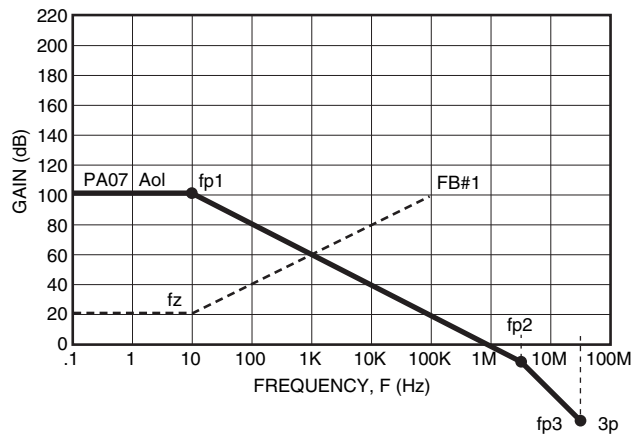
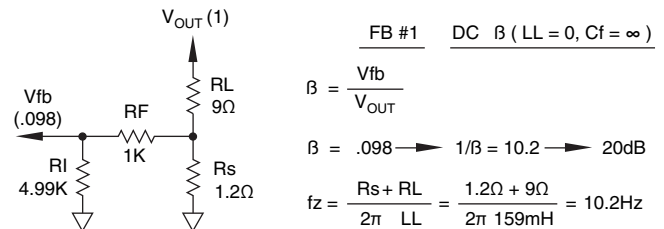

FIGURE 17. Aol AND FB # 1 – MAGNITUDE PLOT FOR STABILITY
FIGURE 18. FEEDBACK NO.1 (FB #1)
**STEP 1:** On Figure 17 plot the op amp's Aol curve as given by the manufacturer.
**STEP 2:** On Figure 17 plot FB#1. Refer to Figure 18 for calculation of FB#1. At DC, LL is a short and so β is a voltage divider through resistors as shown in Figure 18. As we go to higher frequencies, the reactance of LL will increase ( $X_L = 2\pi fL$ ). This will increase the net load impedance which will cause β to decrease and 1/β to increase as frequency increases. Since we are working with a single reactive element the increase of that gain will be 20 dB per decade. Figure 18 details the breakpoint fz where this increase begins. We see that at the intersection of FB#1